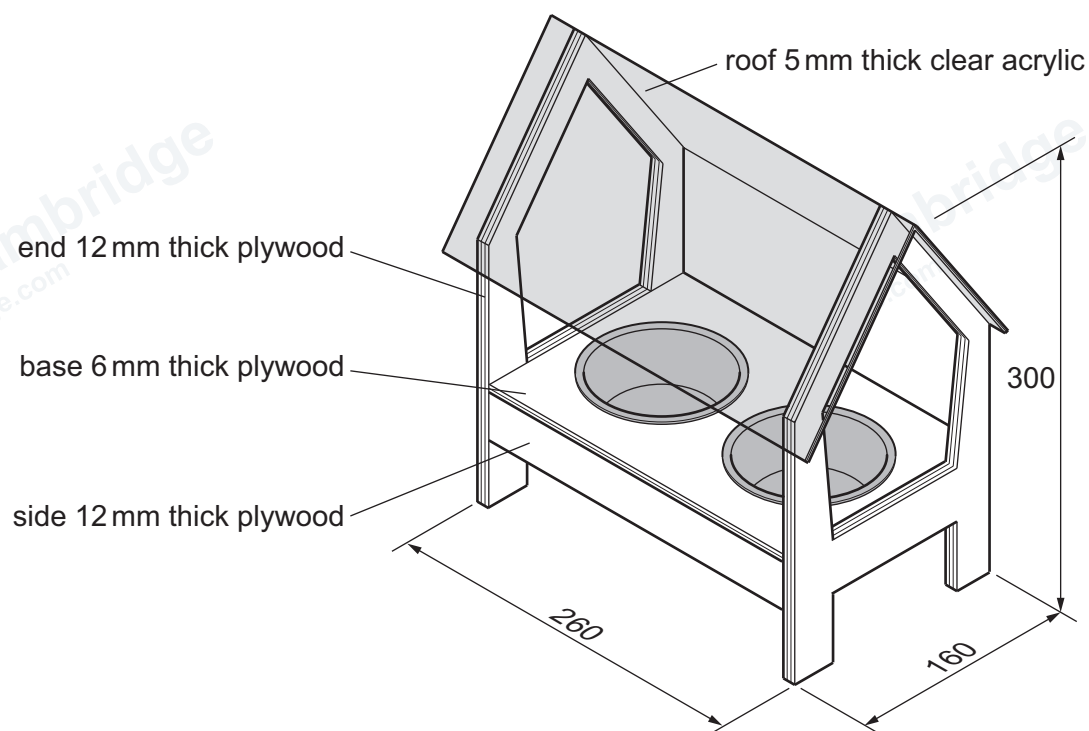
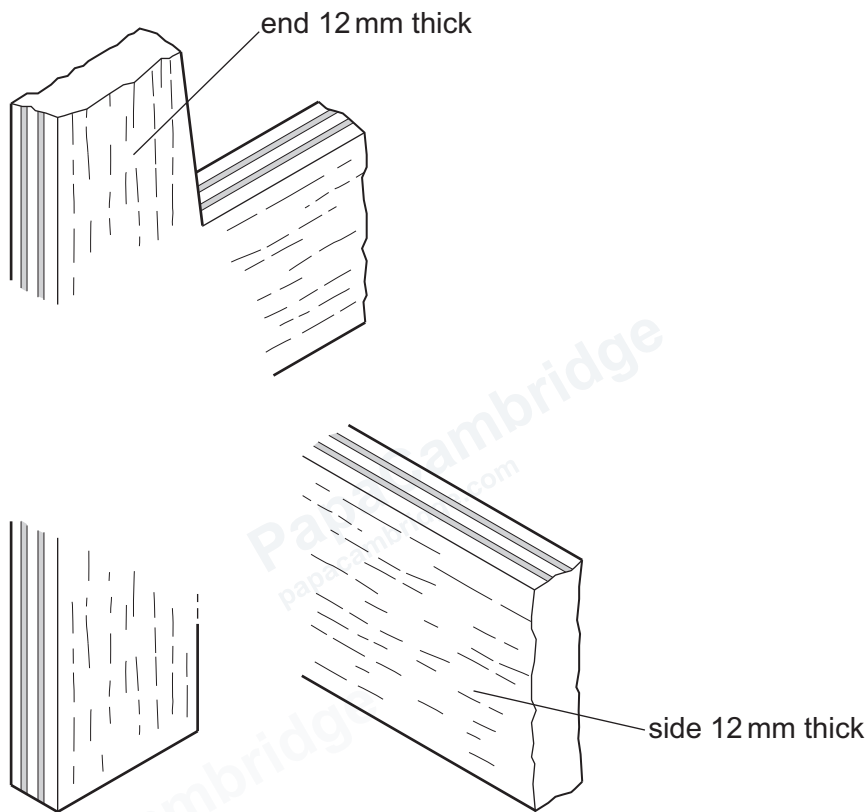

Figure 12.1
Figure 12.3
- 12 Figure 12.1 shows a bird feeder that will be fitted on the top of a fence. Two plastic bowls fit into the base of the feeder.
- (c) Figure 12.3 shows where one end and one side of the bird feeder in Figure 12.1 will be joined together.
Add sketches and notes to Figure 12.3 to show how the side could be joined to the end. Name the joint used.